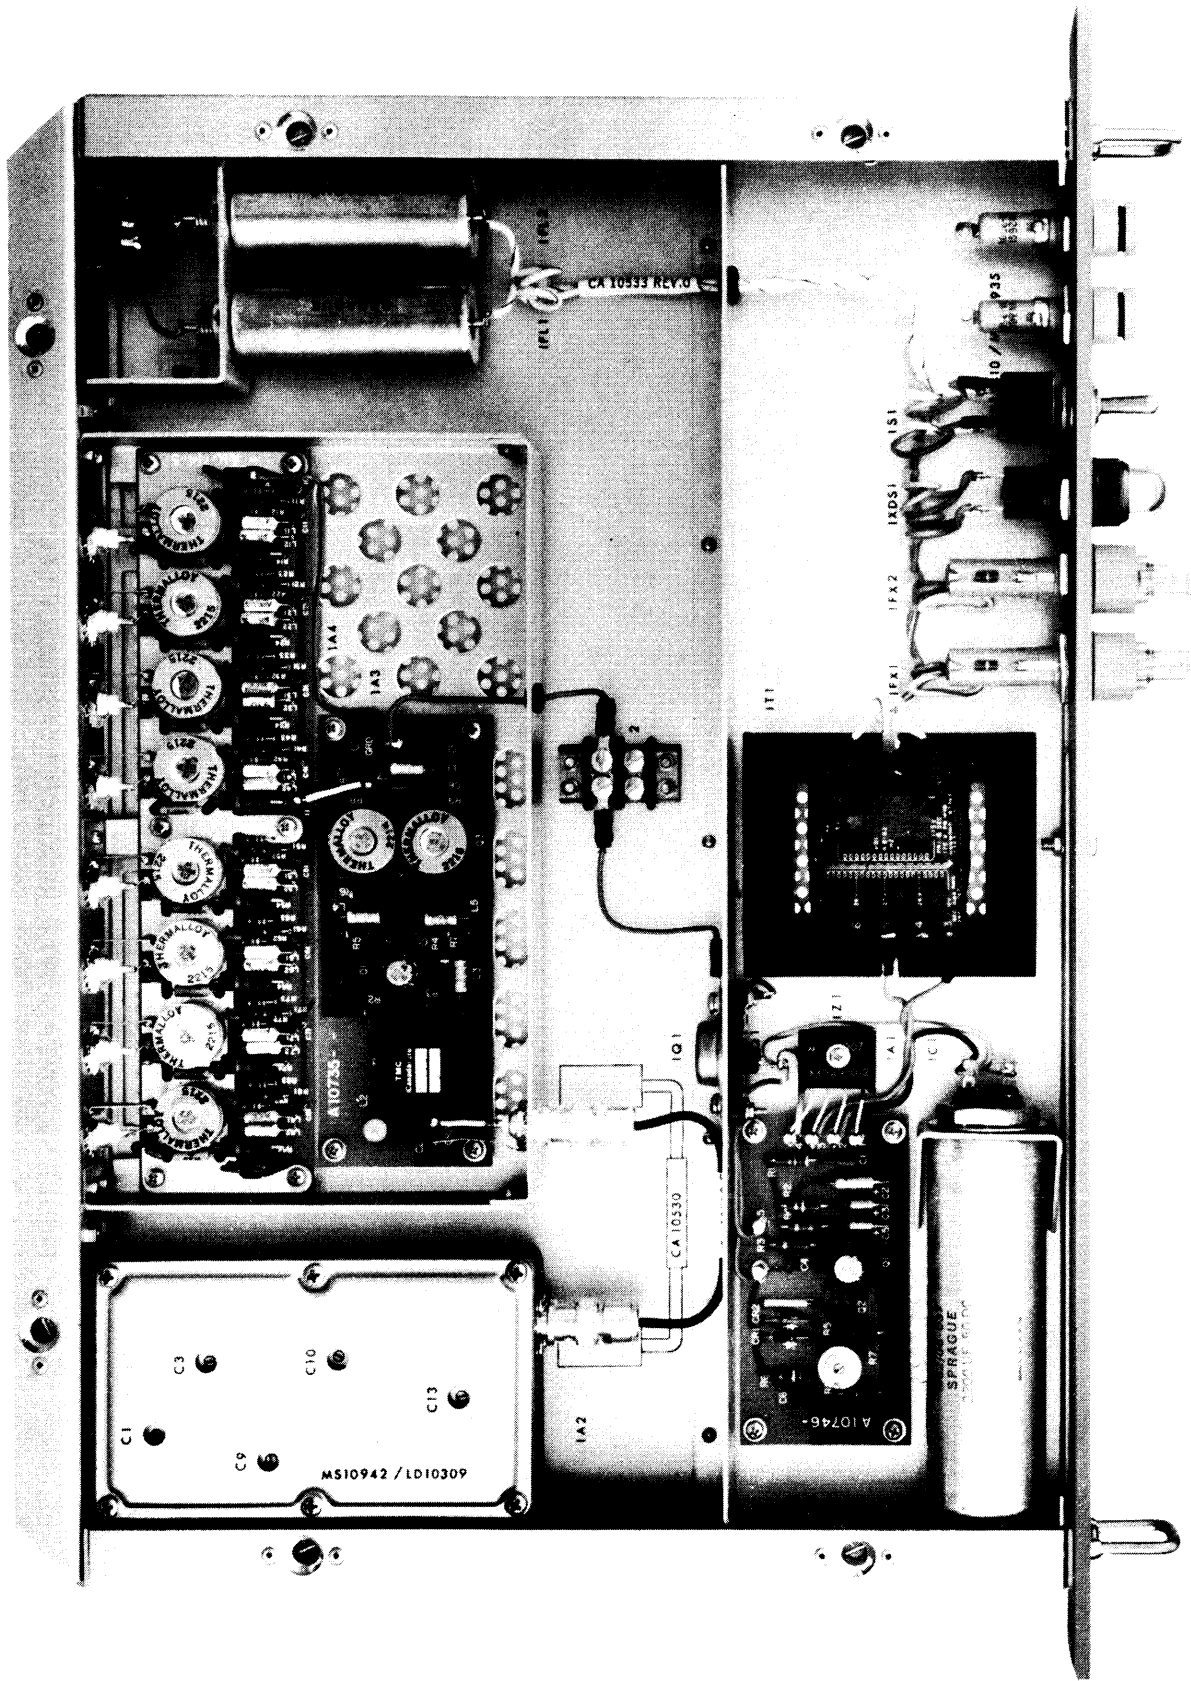

FIGURE 5-1 TOP VIEW WITH COVER OFF, AMC-8
(2) For aid in the location of components, refer to figures 5-1 to 5-5 inclusive.